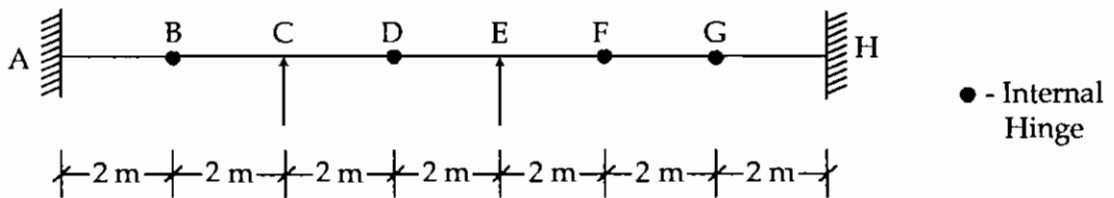

Figure 6 [ Q. No. 4 (B) ]
3. (A) A fixed beam ACB of length  $2L$  is fixed at A and B,  $AC = CB = L$ . While portion AC has a moment of inertia of  $2I$ , portion CB has a moment of inertia of  $I$ . If the beam is subjected to a uniformly distributed load of ' $\omega$ ' per unit length over the entire span, determine the fixed-end moments at A and B using slope-deflection method. 12
- (B) A rigid portal frame ABCD has two unequal vertical legs,  $AB = 4\text{m}$  and  $CD = 6\text{m}$  with member BC horizontal and  $8\text{m}$  long. The supports A and D are fixed and all the members have same moment of inertia  $I$ . The member BC carried a uniformly distributed load of  $40\text{ kN/m}$  and a horizontal force ' $H$ ' acts at joint C. Find the magnitude and sense of the force ' $H$ ' such that the frame does not sway under the given loading. Use moment - distribution method. 13
- (C) A two-span continuous beam ABC has simple supports at A and C and  $AB = BC = L$ . Span AB carries a central concentrated load of ' $P$ '. Compute the redundant reaction at the central continuous support B if it settles by ' $\Delta$ '. Use consistency of deformation method. 9
4. (A) A cable is suspended between two points A and B located 50m apart horizontally. B is higher than A by 12.5 m. At the midpoint of the span AB, the cable is 9.375 m below the point A. The cable carries a uniformly distributed load over the span. Determine the position and sag of the lowest point and curved length of the cable. **11**
- (B) Using the Muller-Breslau principle draw the influence line diagrams for the following actions for the compound beam shown in Figure. 6 and show the salient values. **10**